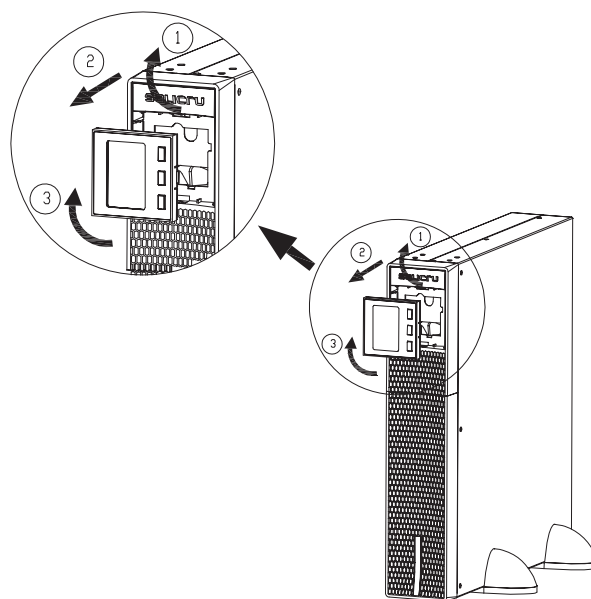

Fig. 5. Rotation of the control panel with LCD display on the plastic front trim.
- Figs. 5 to 11 show, by way of example, illustrations of a device with or without battery module. These illustrations provide help and guidance in the steps to follow, but the instructions are not intended to refer to a single model, although, in practice, the actions to be carried out are always the same for all of them.
- To facilitate the reading of messages on the display when the device is installed vertically, it is possible to rotate the control panel clockwise by 90° (see Fig. 5).